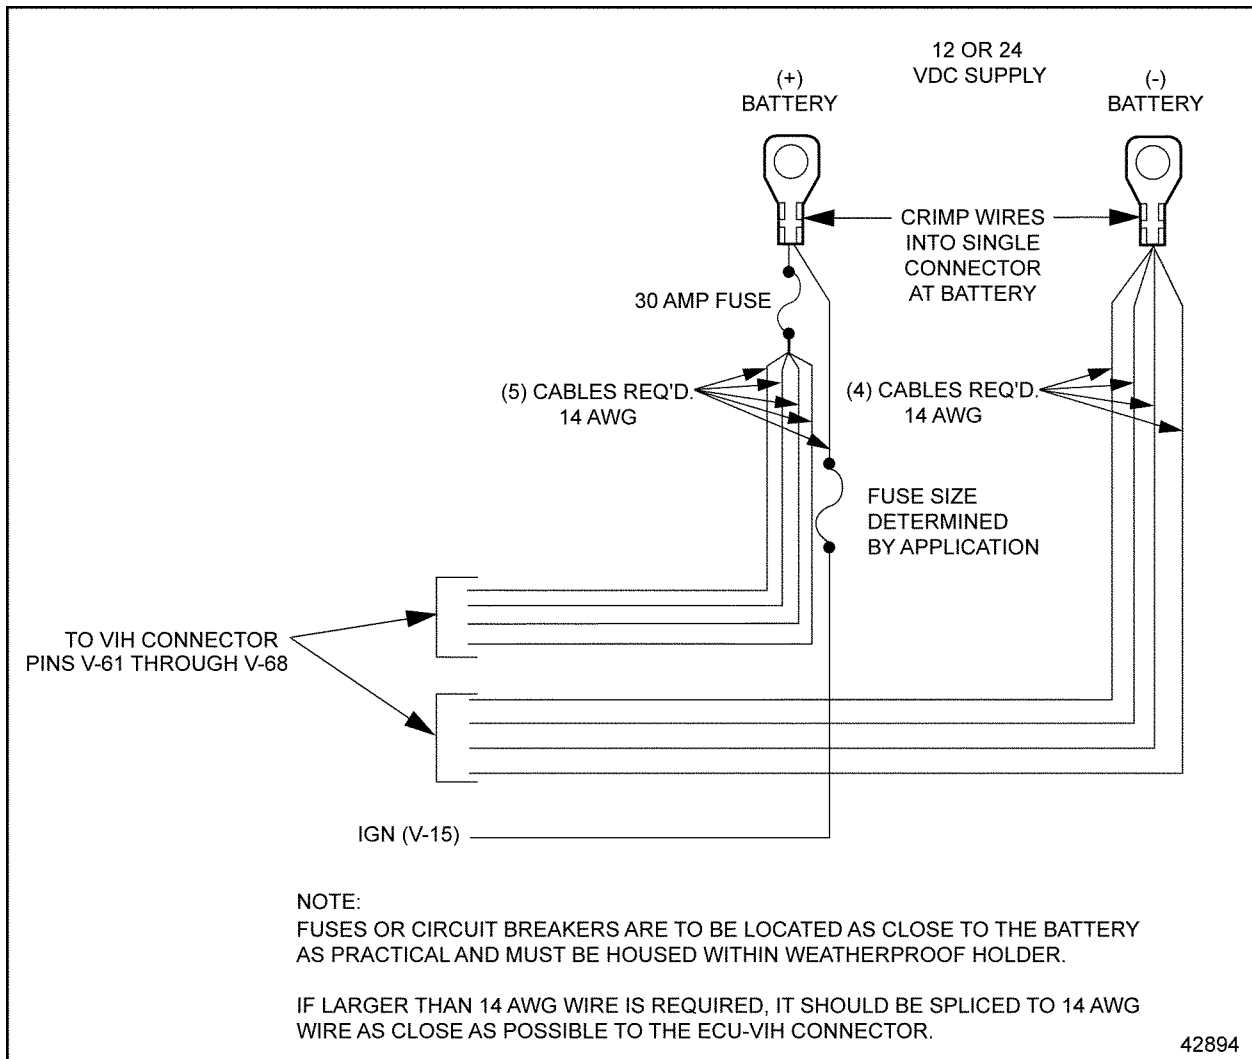

Figure 19-1 Pins V-61 through V-68 to Battery Leads
2. Measure voltage at other ECM/ECU fuse or circuit breaker. Note that battery side does not contain Pins V-61, V-62, V-65, or V-66. See Figure 19-1.